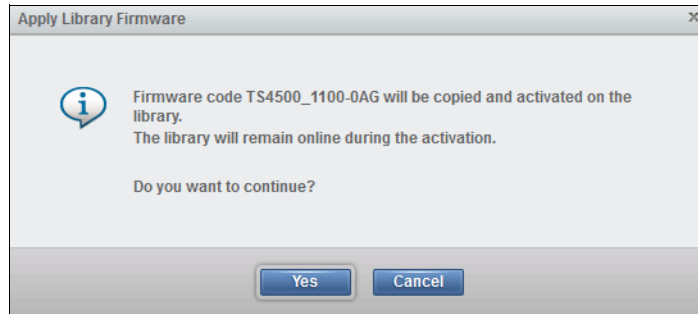

Figure 4-168 Firmware update confirmation
- The Apply Library Firmware window opens. Click **Yes** to continue, as shown in Figure 4-168.